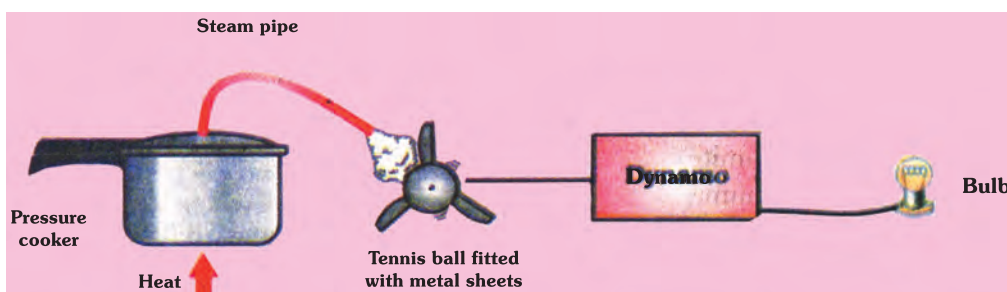

Fig. 5.2 A model to demonstrate the process of thermoelectric production
- Direct a jet of water or steam produced in a pressure cooker at the fins (Fig. 5.2). What do you observe?